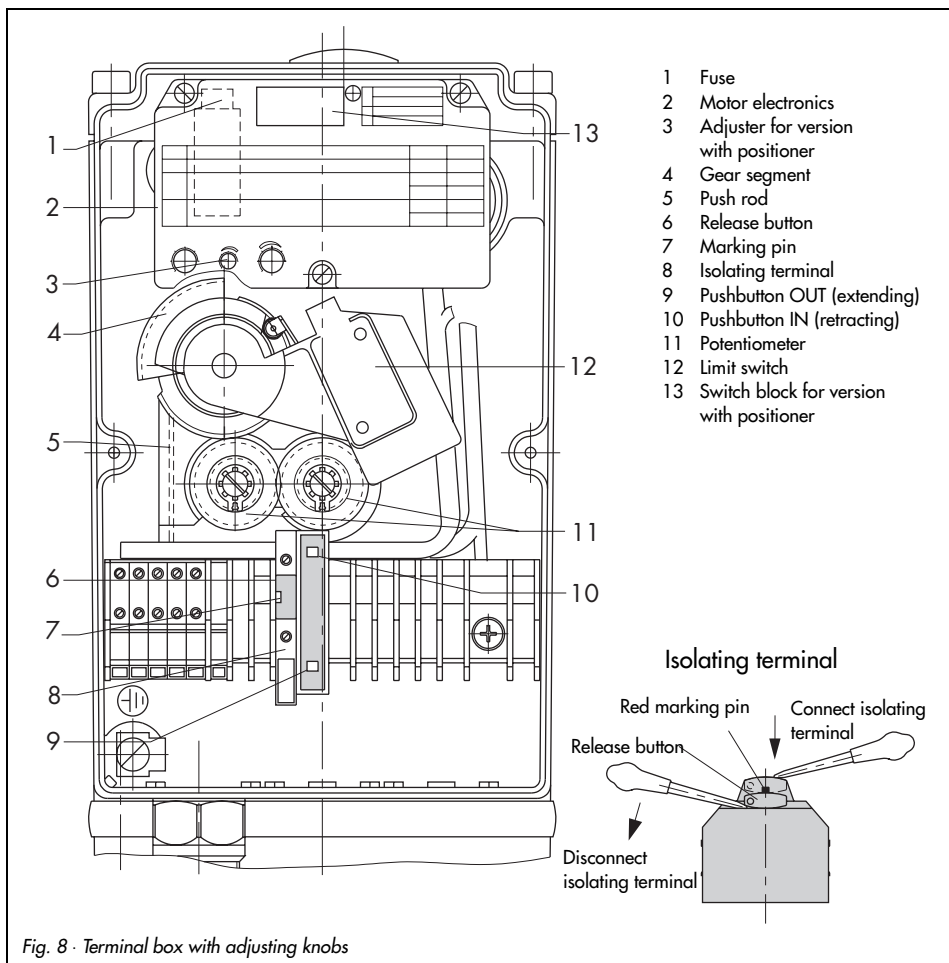

Fig. 8 - Terminal box with adjusting knobs
Important: If, e.g. upon start-up of the plant, the control signal is to be interrupted and the control valve is to remain in a certain position, the **isolating terminal 81** must be disconnected (Fig. 8).
1. Open **isolating terminal 81** by pulling up the release button (Fig. 8).